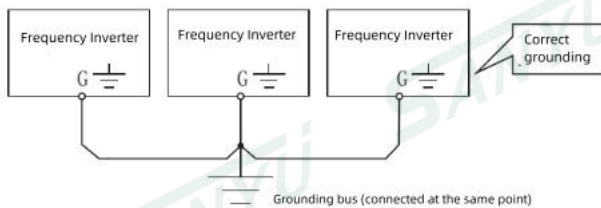

Figure 1-1
- For safety reasons, the grounding terminal of the inverter must be reliably grounded to avoid the influence of grounding common impedance interference. The grounding of multiple inverters should adopt the single-point grounding method, as shown in Figure 1-1 .